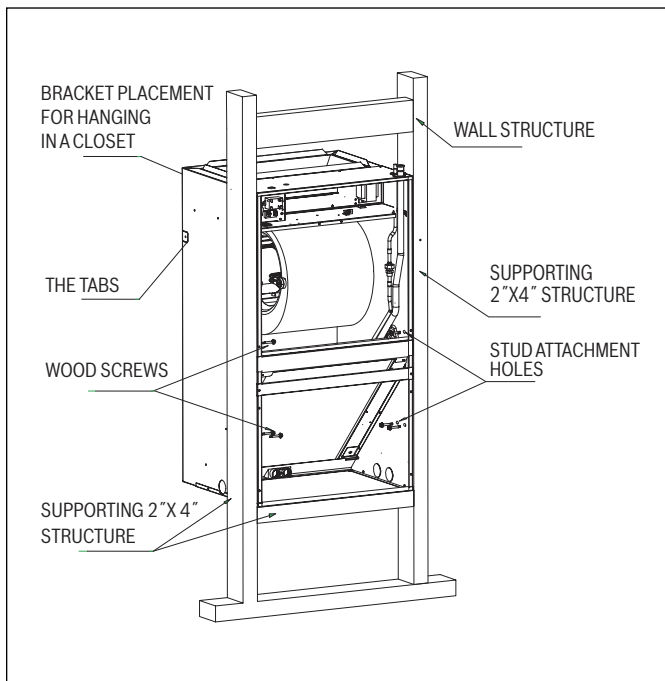
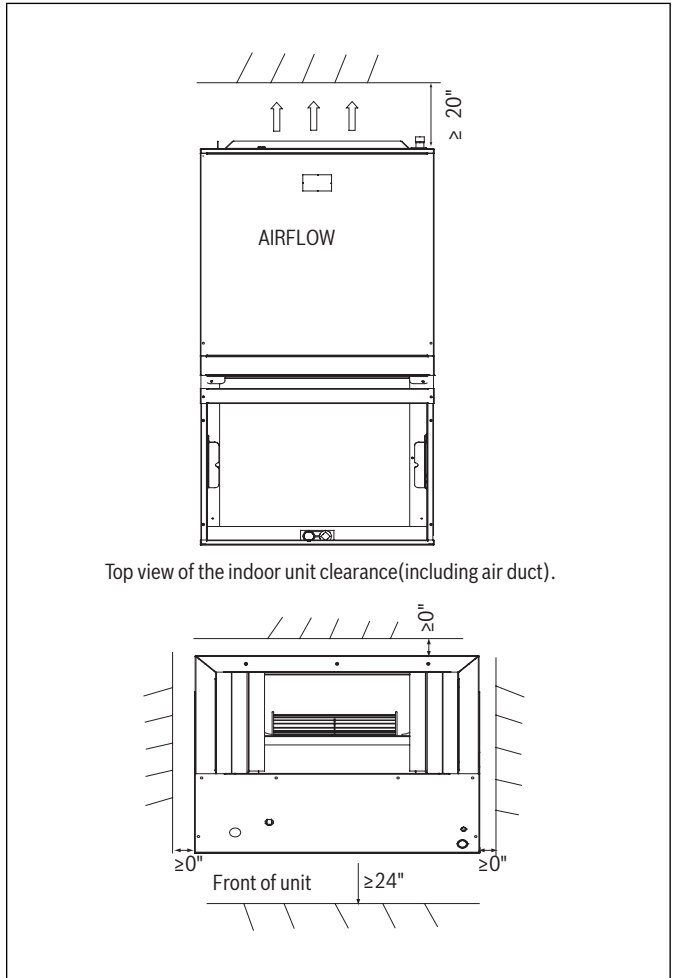

Figure 6 Frame Mount
Figure 7 Space for frame mount
The air handler comes with 6 clearance holes (3 on each side). These holes are used to mount the air handler inside of a frame structure (see Figure 6). When mounting in this fashion, make sure that the wood screws are mounted from within the air handler and not from outside the unit in order to avoid damaging the coil. If the frame does not provide support in the front of the unit and additional support is needed, open up the tabs and fix the unit to the frame or other support structure with screws. Select a solid and level site to ensure proper installation of the frame mount. Verify that there is sufficient space for installation and maintenance (see Figure 7).
The (6) wood screws are not provided with the unit. #12 x 1 1/2" wood screws are recommended. When the unit is installed on a wood frame, the screws should be used to fix the unit to the studs. If they are not used, the unit may fall down or cause other damage. See Figure 6 for frame mount installation.
**i** The installed unit must have the required clearances as shown in Figure 7. Failure to follow these instructions may result in equipment damage and/or premature equipment failure.